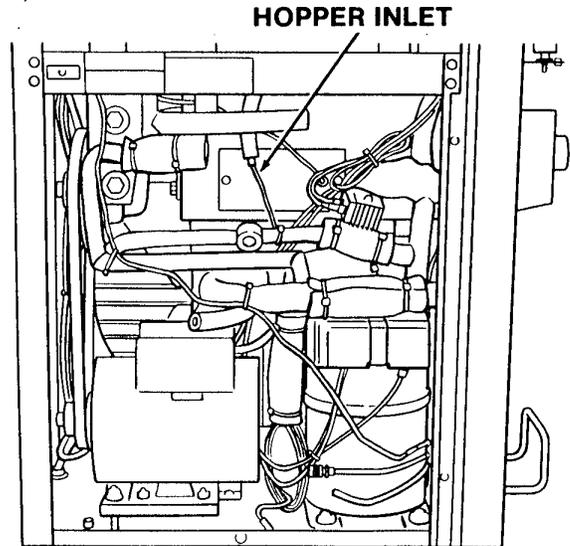

Figure 44. Capillary Tube and Drier Assembly
2. Position the capillary tube and braze the tube to the hopper inlet using the appropriate material. (Figure 44)